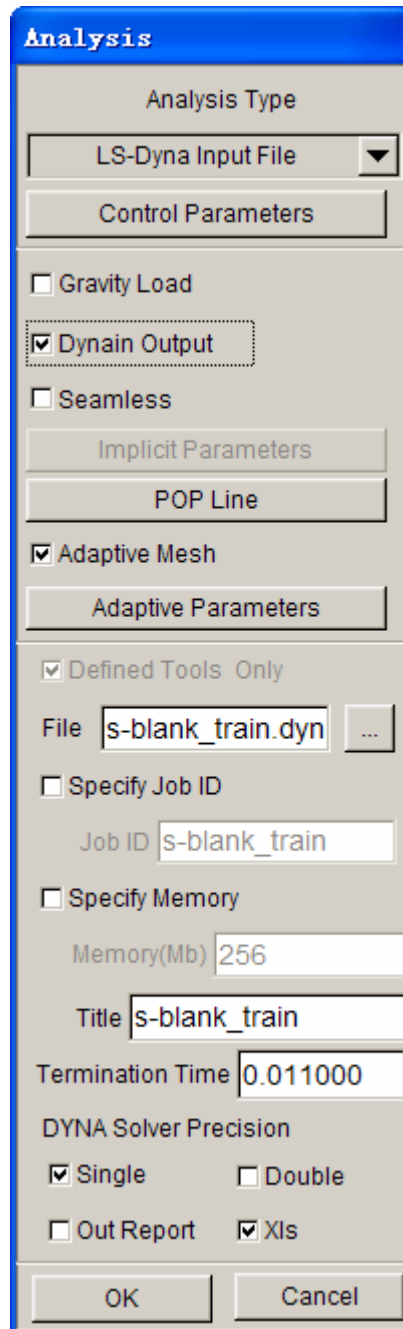

Figure 58: Analysis dialog box
1. Click **Submit Job** button to display the “**Analysis**” dialog box shown in Figure 58.